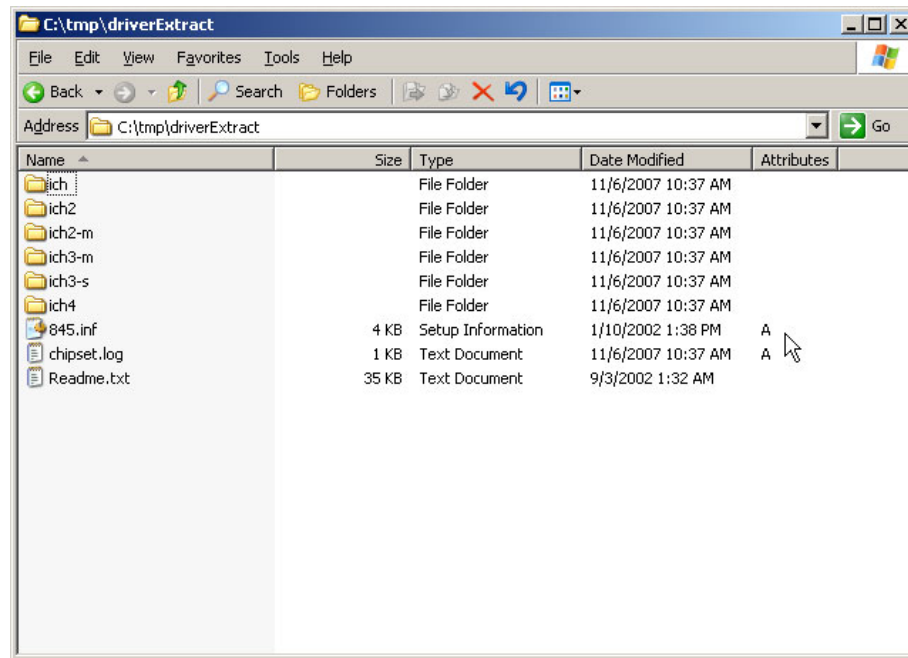

Figure 2-25 Display the extracted inf files
8. Verify that the files were extracted to the destination location as shown in Figure 2-25.